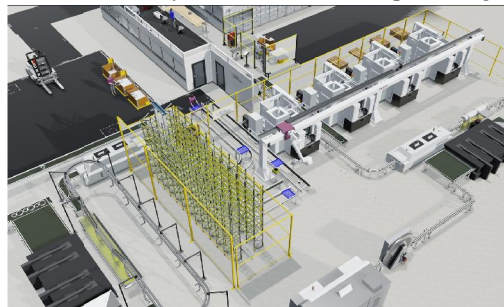

Figure 4.1: Material handling
2. Conveyance Systems: Trolleys, conveyors, AGVs for part delivery. ( Figure 4.1)